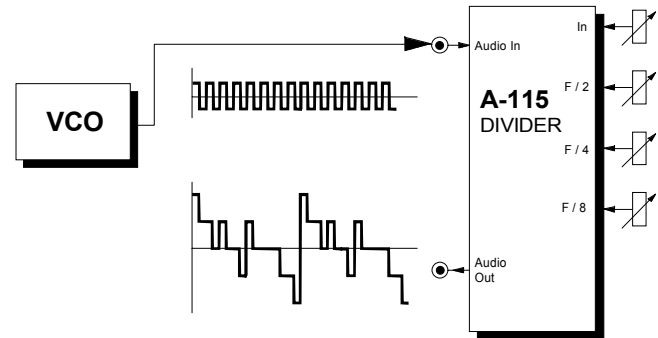

Fig. 1: The A-115 as a frequency generator
Fig. 1 shows how the A-115 can take a simple square wave and create a new wave form. Turn attenuators ① to ④ up to maximum, and set attenuator ⑤ to 0.